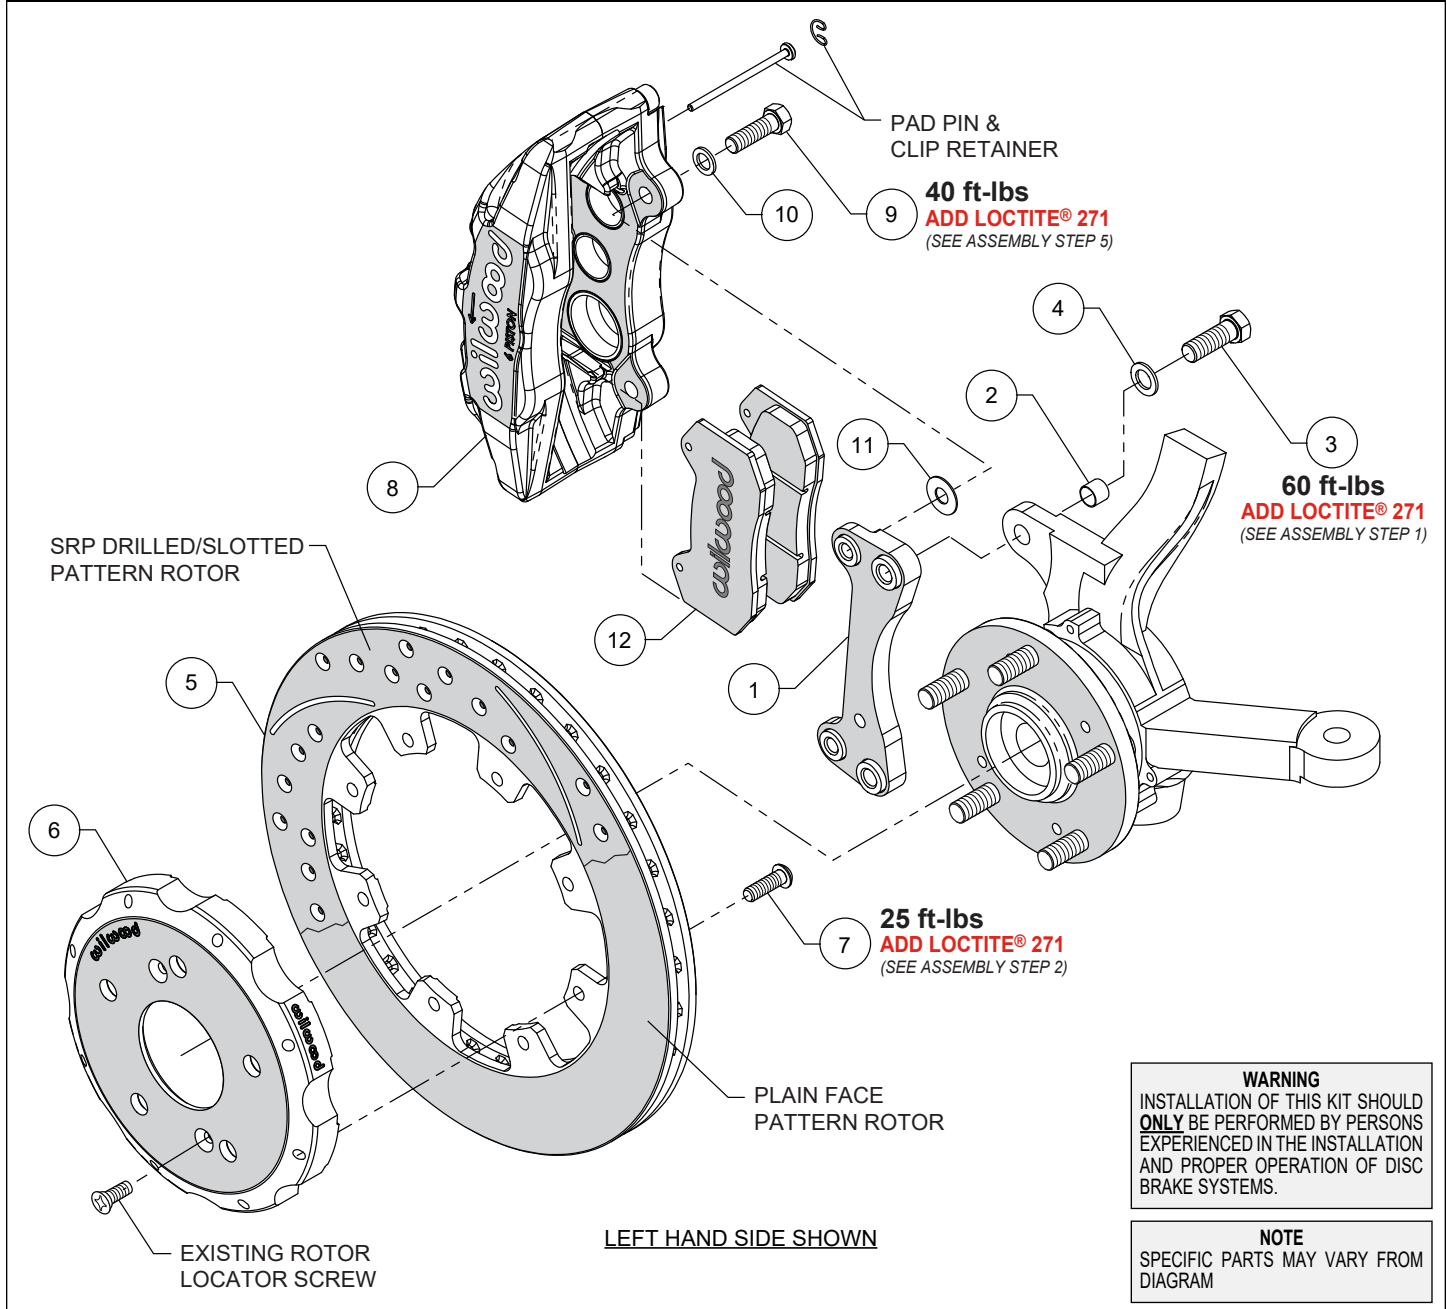
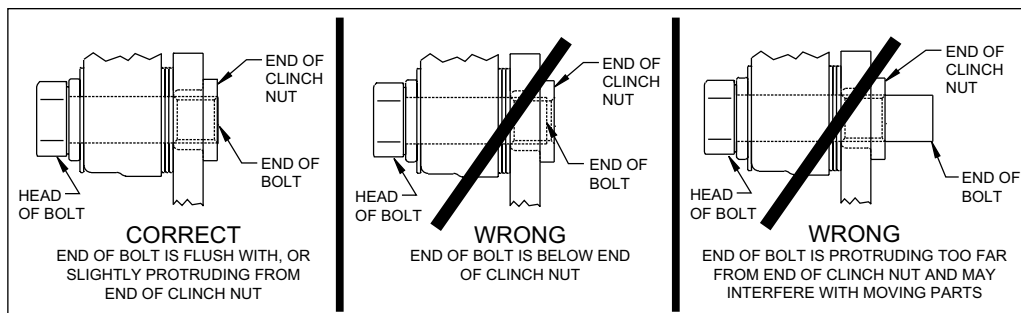

Figure 1. Typical Installation Configuration, Left Hand Application Shown
Figure 3. Clinch Nut Engagement Diagram
NOTE: Numbers in parenthesis refer to the parts list and Figure 1 on the preceding pages.
CAUTION: All mounting bolts must fully engage clinch nuts. Be sure to check that all bolts are either flush or protruding through flanged side of clinch nut after shimming, Figure 3.
STEP 1 Insert one sleeve (2) into each hole of the caliper mounting tabs of the upright, Figure 1. Orient the caliper mount bracket (1) as shown in Figure 1, and install using bolts (3) and washers (4). Ensure that the flanged heads of the clinch nuts in the bracket are facing outboard, Figure 1. Temporarily tighten the mounting bolts. **NOTE:** The bracket must fit squarely against the mount bosses on the upright. Inspect for interference from casting irregularities, machining ridges, burrs, etc. Remove bolts (3) one at a time, apply red *Loctite*® 271 to the threads and torque to value shown in Figure 1.
STEP 2 Orient the rotor (5) and the hat (6) as shown in Figure 1 and Photo 1. Attach rotor to hat using bolts (7). Apply red *Loctite*® 271 to the bolt threads and torque to value shown in Figure 1 using a criss-cross pattern.
STEP 4 **NOTE:** This kit contains distinct right and left hand calipers that must be mounted in a specific direction, as described below. Mount the caliper (8) onto the caliper mounting bracket (1) using bolts (9) and washers (10), as shown in Figure 1. Initially place one .035" thick shim (11) on each bolt between the caliper and the bracket, Photo 2. Ensure that the caliper is mounted so the largest pistons are at the rotor exit end of the caliper, in relation to the direction of forward rotor rotation. Temporarily tighten the mounting bolts and view the rotor (5) through the top opening of the caliper. The rotor should be centered in the caliper, Photo 3. If not, adjust by adding or subtracting shims (11) between the bracket and the caliper. Always use the same amount of shims on each of the two mounting bolts. **NOTE:** The end of each bolt (9) must be flush with or slightly protruding from the head of the clinch nut, as shown in Figure 3. If necessary place spare shims between washer (10) and caliper mounting ear to achieve the proper clinch nut engagement. Once the caliper alignment and clinch nut engagement are correct, remove the mounting bolts and caliper.
STEP 5 Remove the two pad retaining pins from the caliper (8) by carefully popping out the pin retaining clips and sliding out the pins. Insert the brake pads (12) into the caliper from the bottom, Figure 1 and Photo 4, with the friction material facing the rotor. Secure the brake pads in place with the pad retaining pins and clips, Photo 5. Reinstall the caliper onto the caliper mounting bracket. Apply red *Loctite*® 271 to bolt threads (9), and torque to value shown in Figure 1.